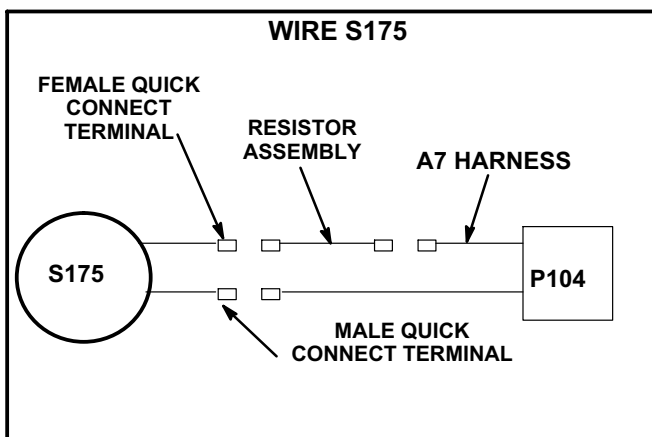

FIGURE 7
- 1- Make wiring connections as shown in figure 7. Secure harness with wire tie provided in kit.